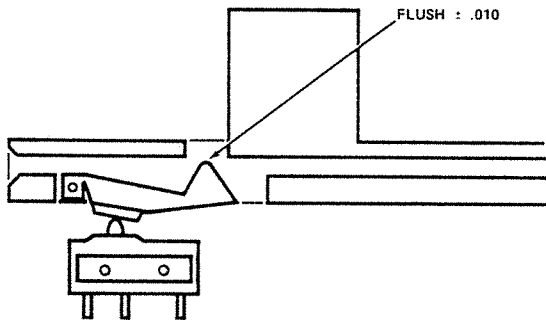

FIGURE 13. WRITE PROTECT SWITCH ADJUSTMENT
- a. Adjust the switch so that the actuator will just transfer the switch when its point is flush $\pm .010$ within the top of the groove in the guide rail. Reference figure 13.